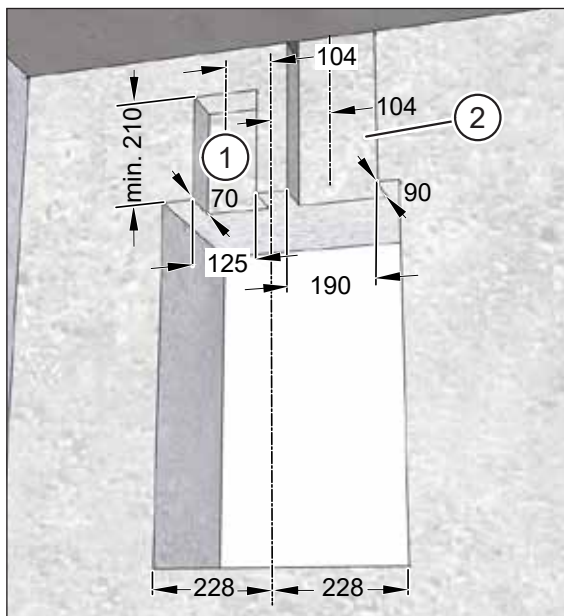
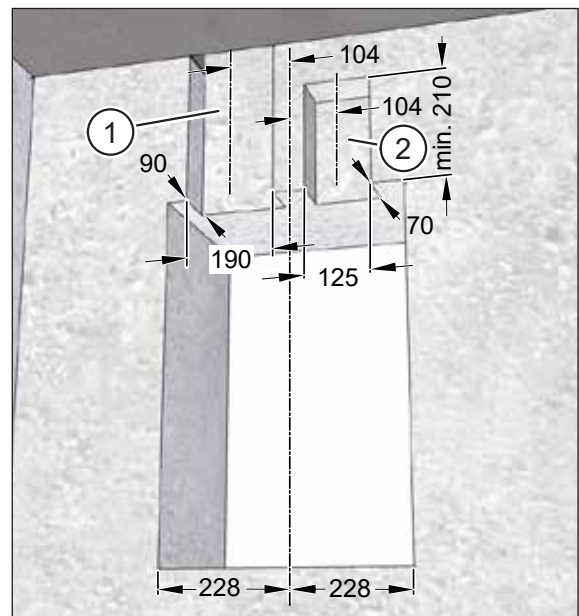

Fig. 15: Chasing out channels for flat ductwork and flexible pipe connections, dimensions in millimetres
Fig. 16: Chasing out channels for flexible pipe and flat ductwork connections, dimensions in millimetres
- Fig. 15: **extract air** (item 1) flat ductwork connection, **supply air** (item 2) flexible pipe connection
- Fig. 16: **extract air** (item 1) flexible pipe connection, **supply air** (item 2) flat ductwork connection
- ▶ Use the wall chaser to chase out one channel for the flexible pipe 190 mm wide and 90 mm deep as far as the flexible pipe outlet in the ceiling (see Fig. 15 and Fig. 16 on page 23).